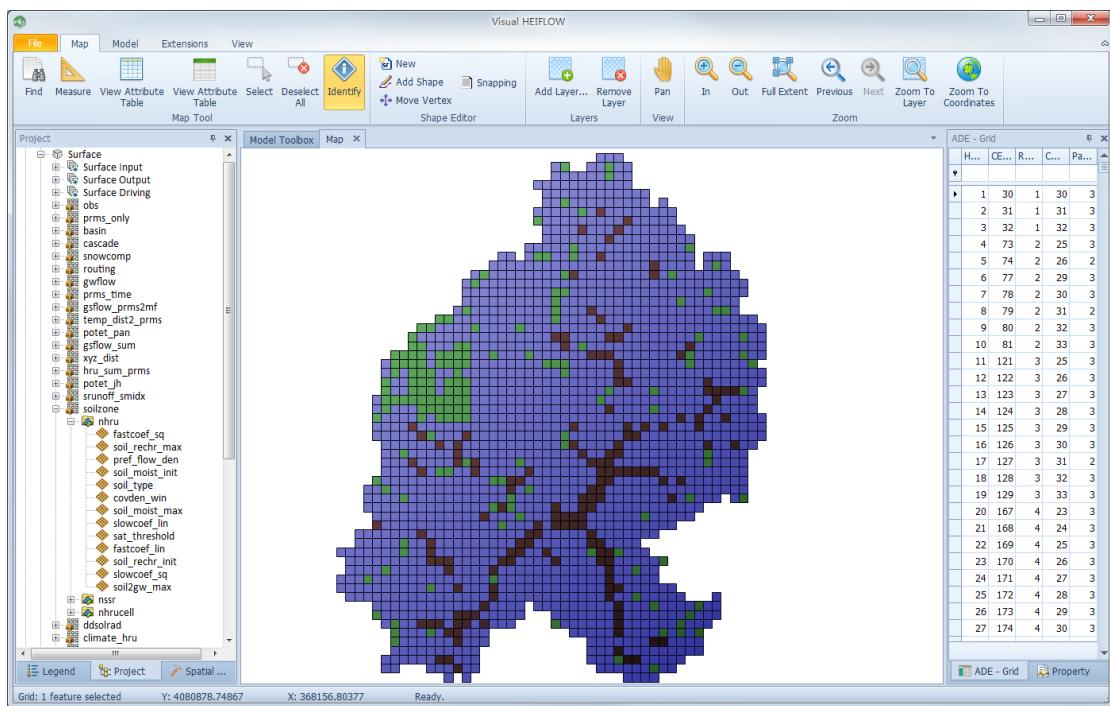

Figure 5-8. Map View of the soil_type parameter
- 8) In the Project Explorer, navigate to soil_type parameter, right click on it and select “Map View...” from the prompted context menu, then the “Grid” layer in the map looks like Figure 5-8. Adjust the display order of map layers in the Legend Panel if needed.